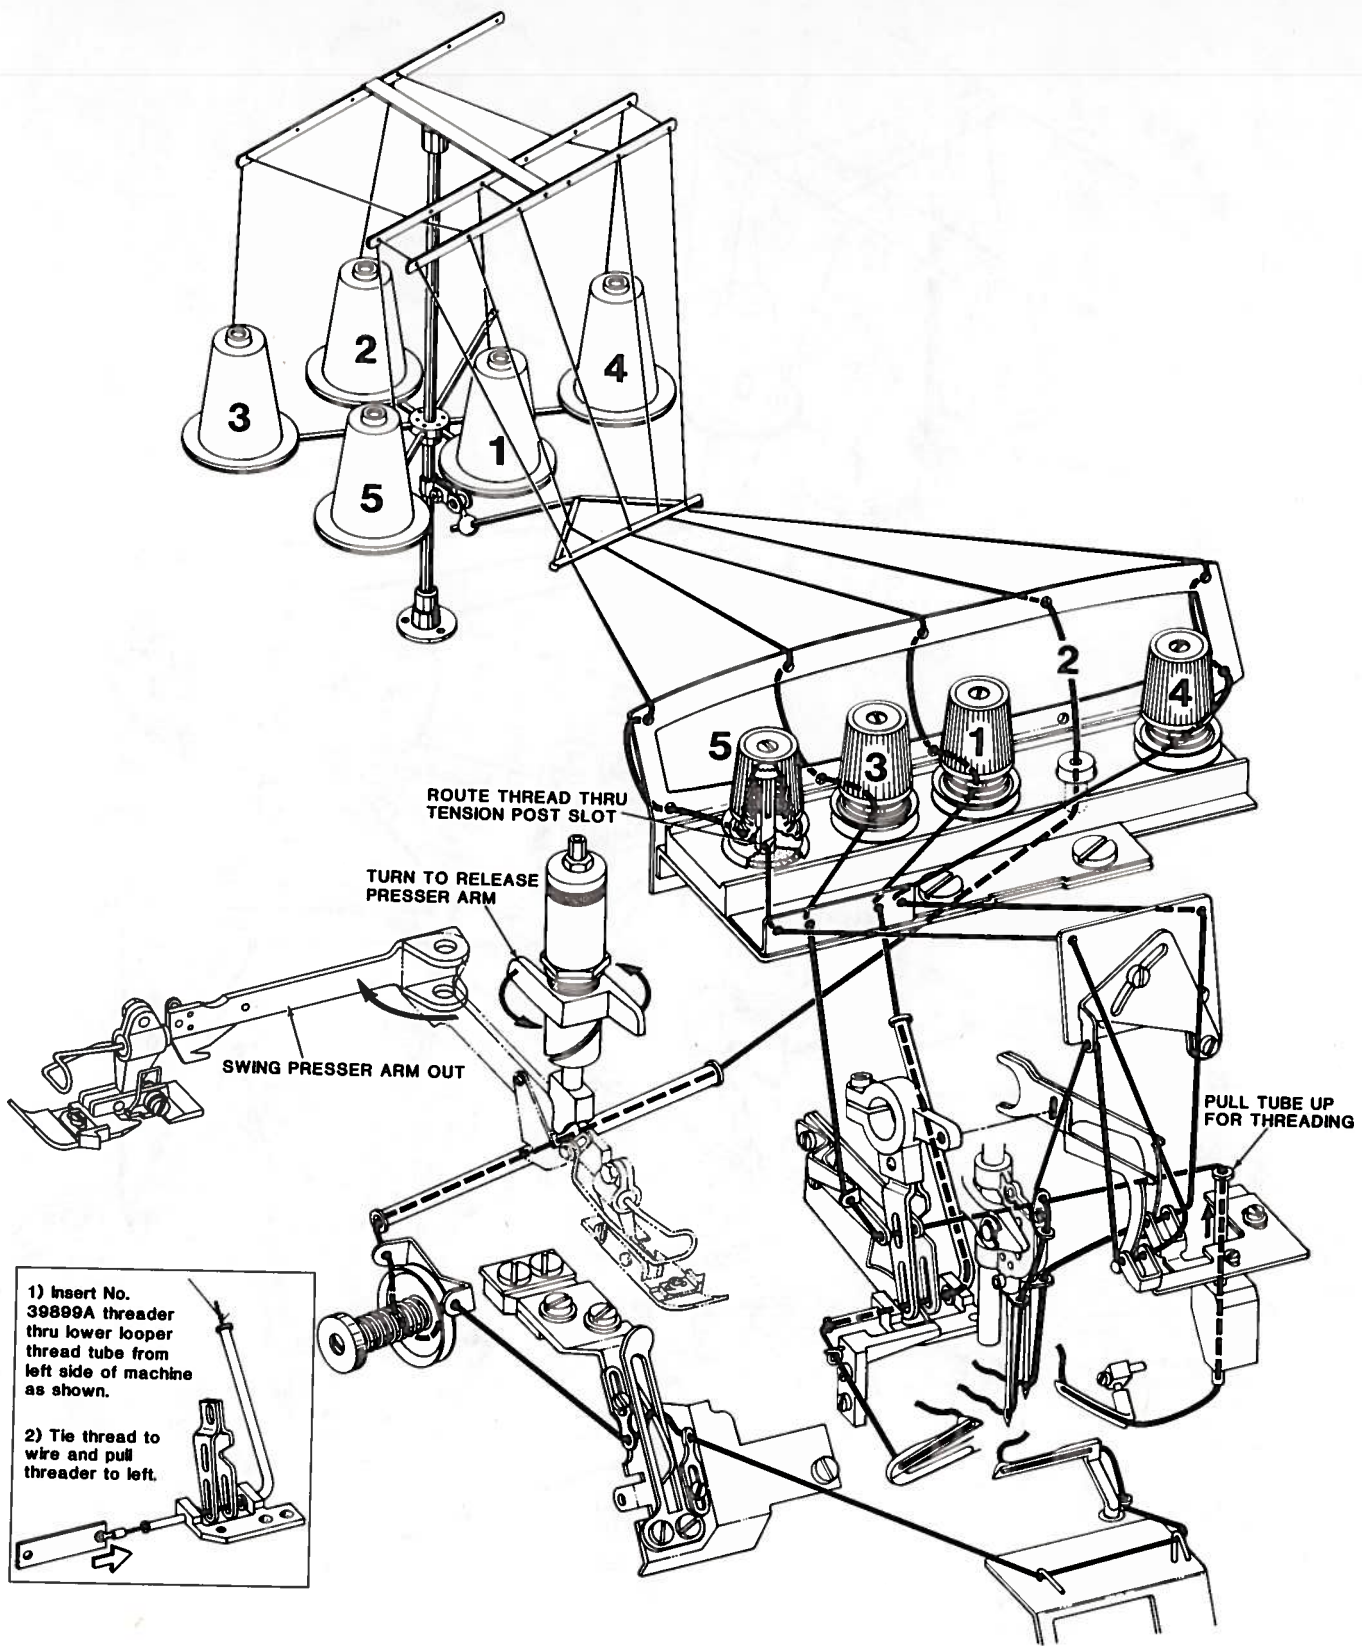
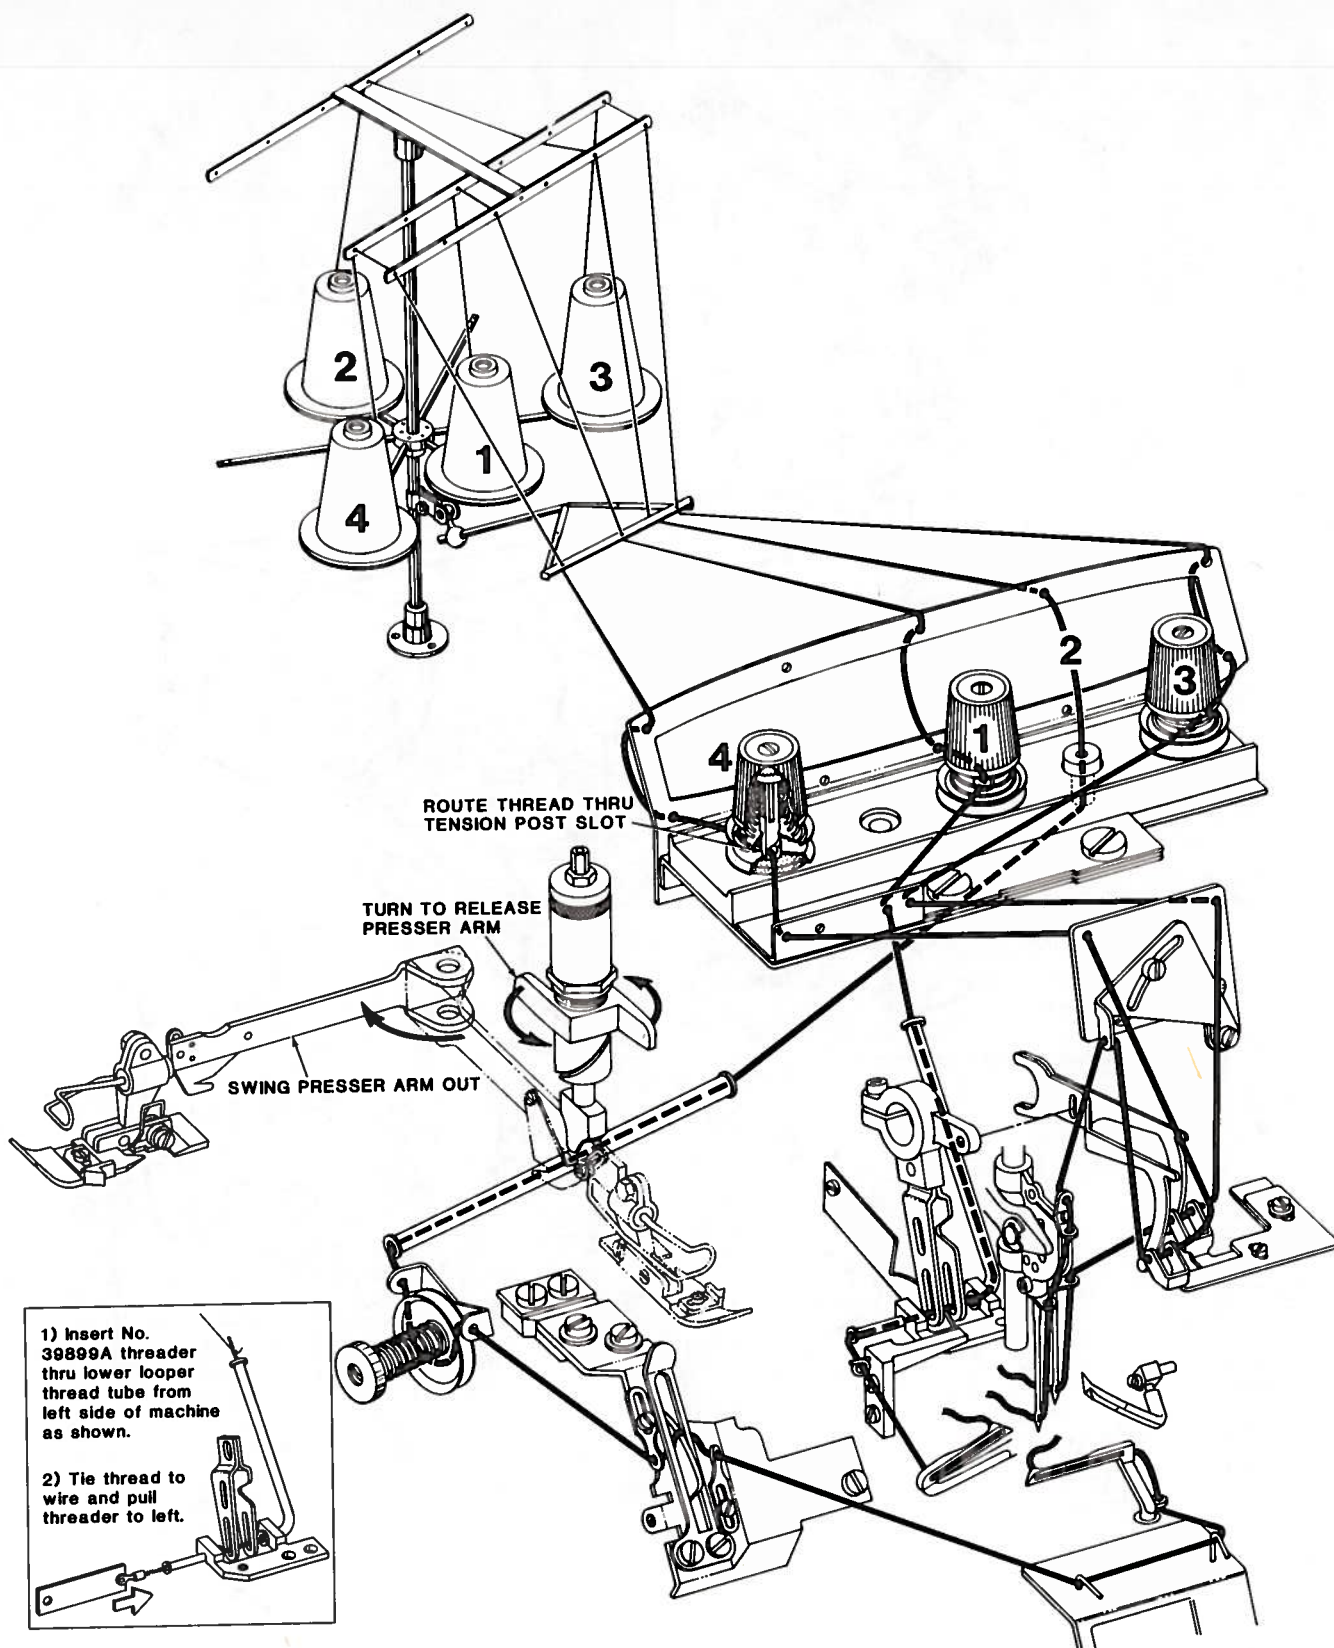

Fig. 1
Fig. 1A
Be sure machine is threaded properly according to threading diagram Fig. 1, for five thread machines or Fig. 1A, for four thread machines.
Thread machine in sequence as shown in Fig. 1; (1) lower overedge looper thread, (2) 401 looper thread, (3) upper overedge looper thread, (4) rear needle thread and (5) front needle thread. Push upper looper thread tube down.
Thread machine in sequence as shown in Fig. 1A; (1) overedge looper thread, (2) 401 looper thread, (3) rear needle thread and (4) front needle thread.